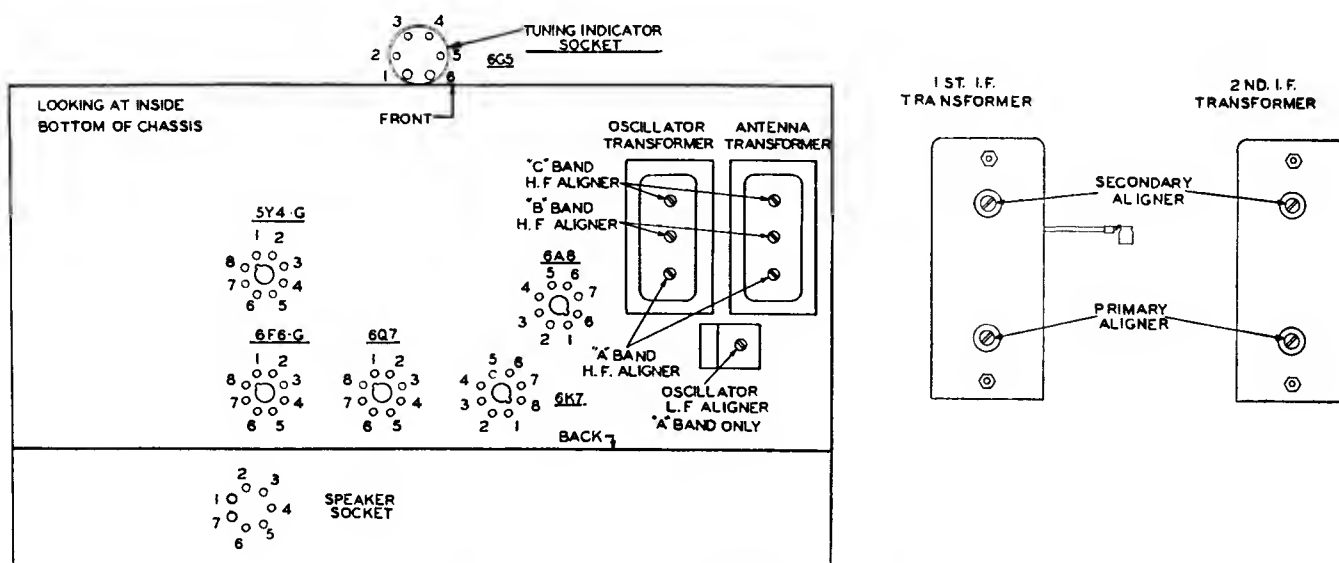

Fig. 1. Terminal Layout for Voltage Measurement Chart and Location of the Various Aligning Capacitors.
The various values of voltages listed in the following table are obtained by measuring between the various tube socket contacts and the chassis base, with the tubes in their respective sockets. The receiver is, therefore, in operation when the measurements are made. Figure 1, shows the terminal layout of the sockets with the proper terminal numbers.
In making any alignment adjustments, always adjust the test oscillator's output voltage to the minimum value where a good alignment may still be obtained. Never attempt to make any alignment adjustments using a strong signal. Before proceeding with the alignment of any circuits in these receivers be sure that the "Off-On-Tone" control knob is set for maximum treble response (position where knob is rotated from its maximum counter-clockwise position, slightly clockwise to position where set turns "on"). Figure 1, shows the location of all the aligning capacitors in these receivers.
3. Now, noting from Figure 1, the aligning capacitors for the first and second I. F. transformers, align the I. F. circuits in the following manner: